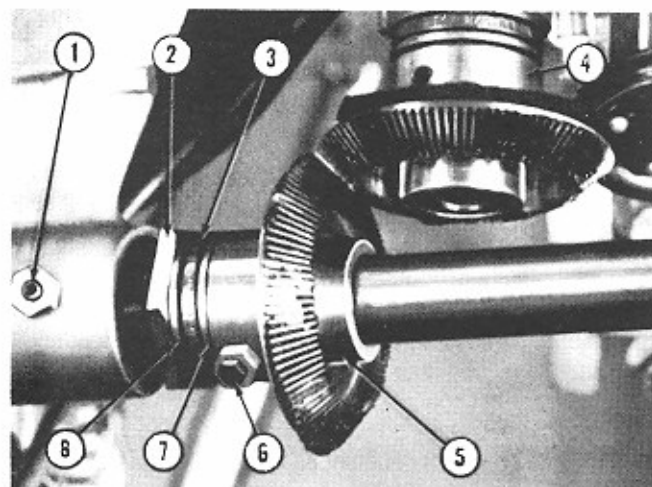

Fig. 75. SELECTOR CRANK AND SHAFT, ASSEMBLY AND ADJUSTMENT
(2) Install the selector crank and shaft assembly in the selector support casting. The adjustable bushing and bearing assembly (Item 2, Fig. 75) should be screwed into the casting to permit installation of the following items on the shaft of the selector crank and later setting of the bevel gears. The thrust washers (Items 7 and 8), the thrust bearing (Item 3) and the bevel gear (Item 5) will be assembled on the shaft and the bevel gear securely locked to the shaft by the pointed set screw (Item 6) set in the detent of the selector crank shaft.
(3) Tighten down the pointed set screw and its lock nut.